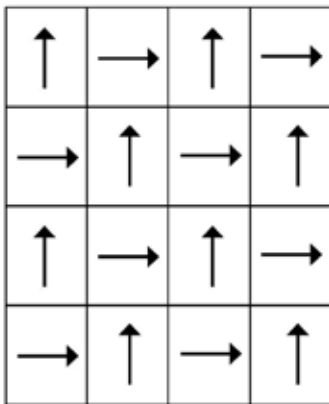

Figure 1
- For best results in general, the tiles should be turned one quarter turn to form a chequered pattern (see fig 1 below). This method is strongly recommended for the Graphic collection in particular..
- Since the material is a woven fabric with natural variations in structure, slight differences in shade may be seen if the tiles are laid in the same direction. Take note of the direction of the arrow on the reverse as per Figures 1, 2 and 3..